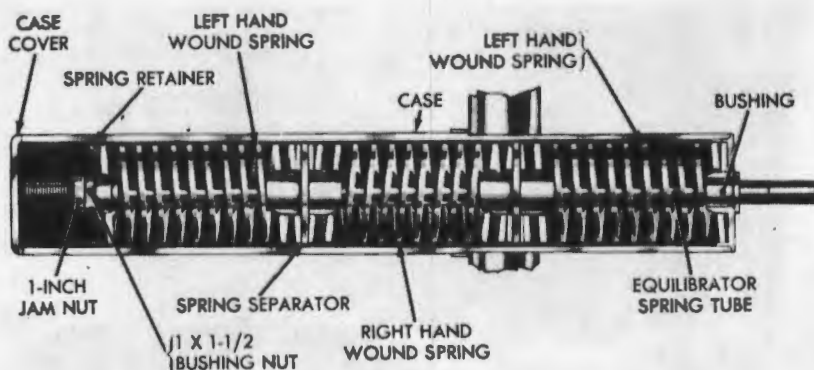

Figure 359. Firing mechanism.
a. Description. The firing mechanism (fig. 359) consists of mechanical linkage so arranged as to permit firing the dual gun M2A1 mechanically. The firing mechanism is actuated by applying pressure to the firing mechanism pedal. Pressure on the pedal is transmitted through linkage to the actuating rods which are attached to the firing mechanism levers that contact the firing plungers. When pressure is released, the pedal is returned to its original position.
b. Adjustment. The firing mechanism (fig. 359) must be adjusted so that when the firing mechanism pedal is released, the exposed portion of the firing plunger (fig. 354) measures approxi-
mately $1\frac{1}{2}$ inches, and the plunger rotates freely in the gun trunnion. To adjust the firing mechanism, loosen the $\frac{3}{8}$ -inch hex nut (fig. 359) on firing mechanism link. Adjust link stop (fig. 359), as necessary, and tighten hex nut.